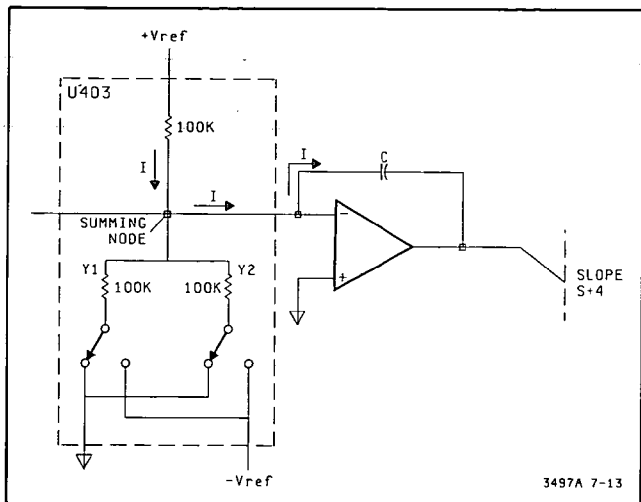
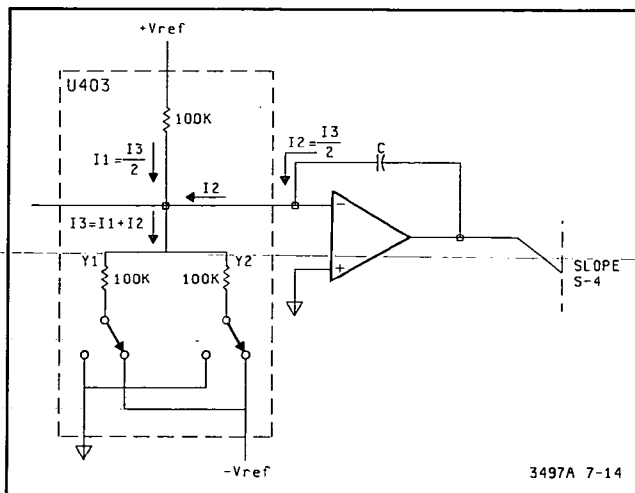

Figure 7-13. Slope S+4 Generation
Figure 7-14. Slope S-4 Generation
a. **Slope S+4.** Refer to Figure 7-13. Note that both Y1 and Y2 paths are connected to ground. Since the summing node of the paths is a virtual ground and Y1 and Y2 are also connected to ground, no current flows between the paths and the summing node. Current does flow from + Vref (Positive Reference Voltage, +12V) through a 100K ohm resistor into the integrator capacitor (C). This generates a negative going output slope.
b. **Slope S-4.** Refer to Figure 7-14. Note that both Y1 and Y2 paths are connected to -Vref (Negative Reference Voltage, -12VA). Since the summing node is a virtual ground, current flows from + Vref through a 100K ohm resistor and paths Y1 and Y2 to -Vref. Current also flows from the integrator capacitor (C) to -Vref. This current is generated because the total resistance of the Y1 and Y2 paths is smaller than the 100K ohm resistor from + Vref. The current from + Vref plus the current from the capacitor equals the total current through paths Y1 and Y2. Since the total resistance of paths Y1 and Y2 is 50K ohms, the current from +Vref (I1) and the current from the capacitor (I2) is half as large as the total Y1 and Y2 current (I3). The resultant output slope is positive.
7-173. Rundown Slope Generation. The S-4 and S + 4 slopes are generated the same way it was done for the runup operation (see paragraphs 7-165). The only difference is that they are developed with the input current removed. The S + 0 slope is generated the same way as the S + 0 slope in runup (see paragraph 7-166). The S-3 and S-1 currents use the same circuitry configuration as the S-4 current (see Figure 7-14), but use different resistor values. The resistor values are such that the S-3 current is 1/10 the S-4 current and the S-1 current is 1/1000 the S-4 current. The S + 2 current uses the same circuitry configuration as the S + 4 current (see Figure 7-13). In this case, the resistor values chosen are such that the S + 2 current is 1/100 the value of S + 4 current.